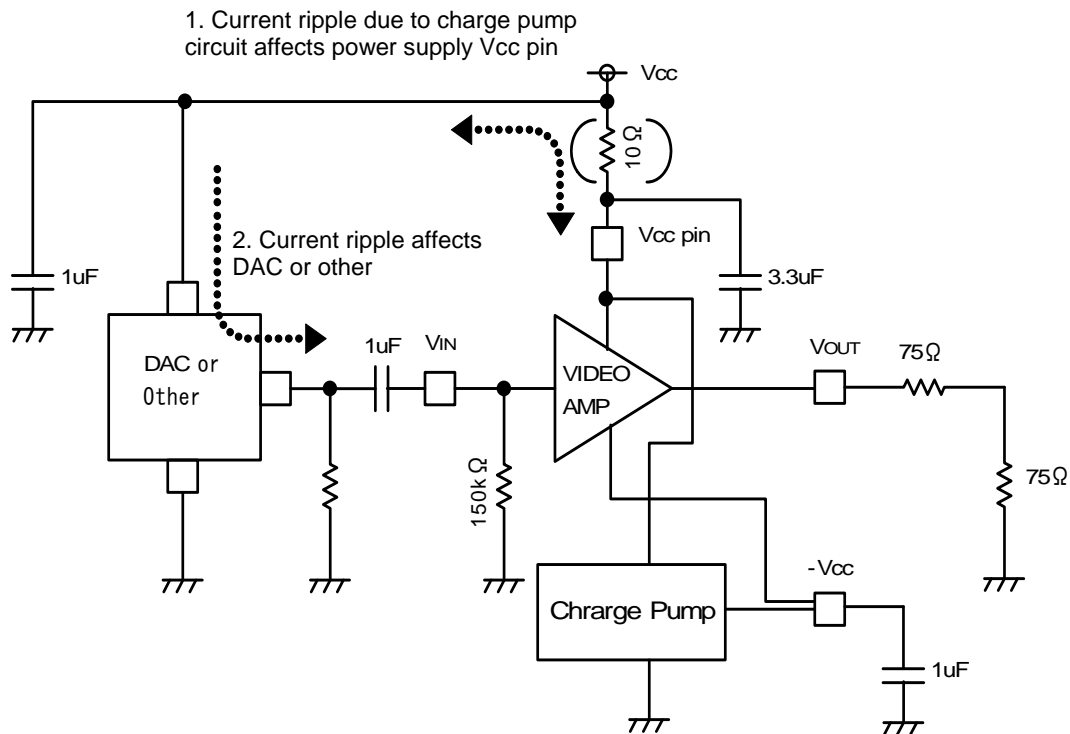

Fig.12 Effects of Charge Pump Circuit Current Ripple on External Circuit
8. A large current transition occurs in the power supply pin when the charge pump circuit is switched. If this affects other ICs (via the power supply line), insert a resistor (approximately 10 Ω) in the VCC line to improve the power supply's ripple effects. Although inserting a 10 Ω resistor lowers the voltage by about 0.2 V, this IC has a wide margin for low-voltage operation, so dynamic range problems or other problems should not occur. (See Figures 12 to 14.)